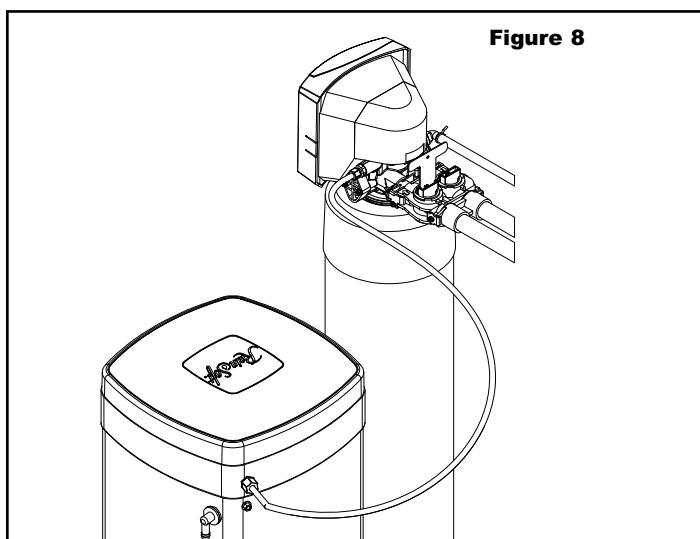

Figure 8
- Slide the brass compression nut over the end of the brine line, followed by the ferrule and tube support. Attach the brine line to the brass fitting on the right side of the valve (see figure 8).
- Insert a tube support into the other end of the brine line and push the brine line into the brine safety float elbow. Use a locking clip to secure the connection (see figure 8)
- Run a 1/2 inch I.D. brine overflow line from the overflow elbow on the side of the brine tank to an approved drain (see figure 8).